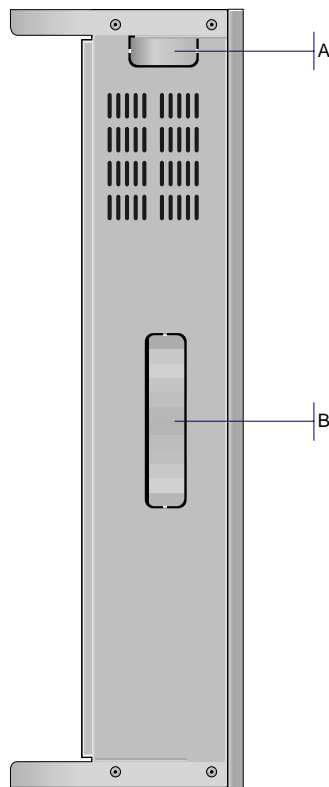

FIGURE 2-4 RIGHT SIDE VIEW OF BASIC KSU
2. Remove dummy tabs on the right side of the basic with appropriate tools for connection route. A is for MDF cable and B is for signal and power cable. (See Figure 2-4)